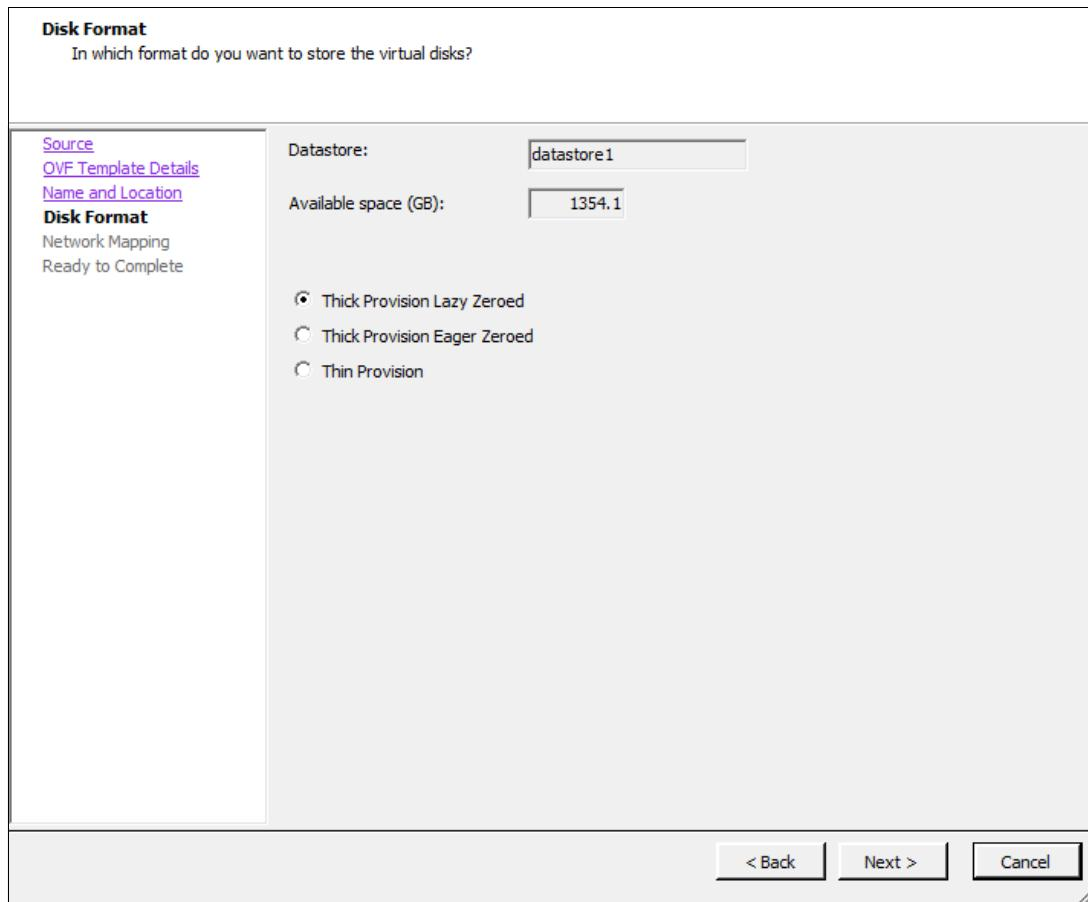

Figure 3-56 Disk Format
10. In the Disk Format panel (Figure 3-56), click **Next**.